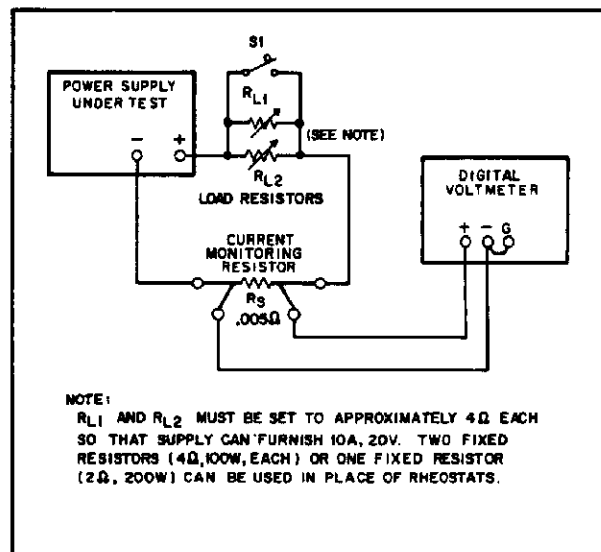

Figure 5-7. Constant Current Test Setup
- a. Connect test setup shown in Figure 5-7. Set R_{L1} and R_{L2} to maximum resistance.
- a. Connect test setup shown in Figure 5-7.